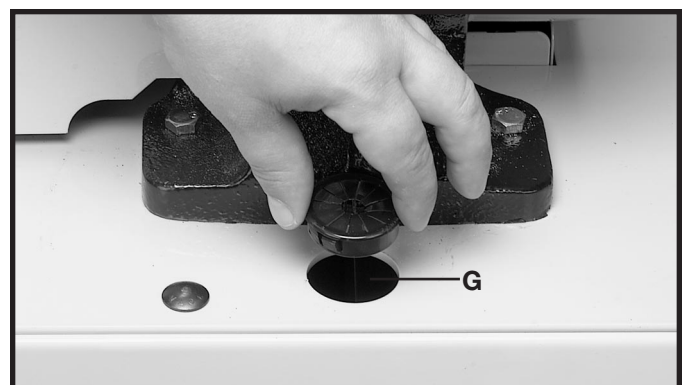

Fig. 38
6. Insert the cord bushing into hole (G) Fig. 38, on the top of the band saw stand.